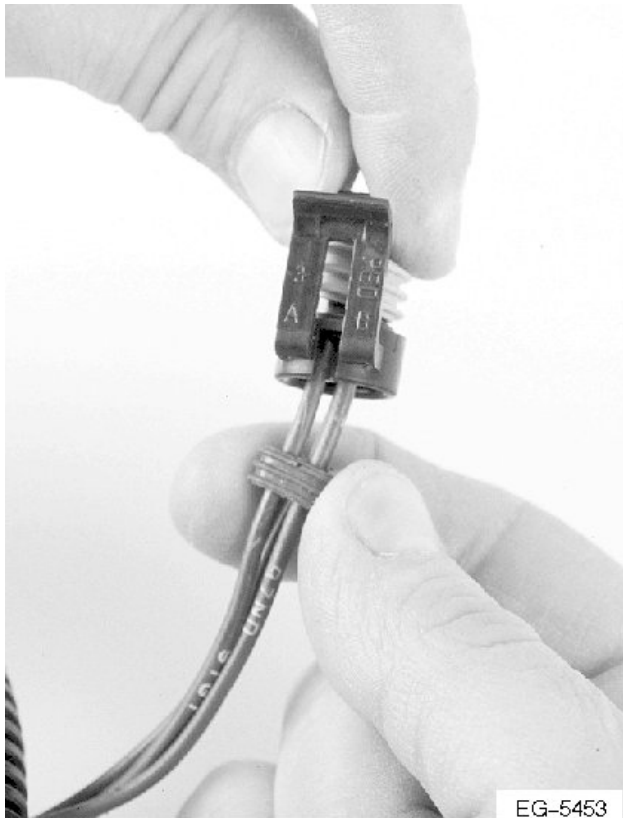

Figure 283 Slide The Insulator Away From the Connector Body
2. Slide the insulator down the wires away from the connector body (See Figure 283, page 448).